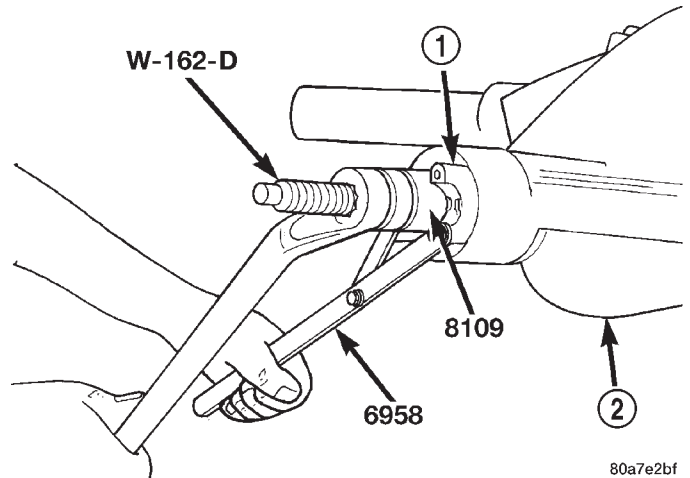

Fig. 8 Pinion Yoke Installation
(2) Install yoke on the pinion gear with Installer W-162-D, Cup 8109, and Holder 6958 (Fig. 8).